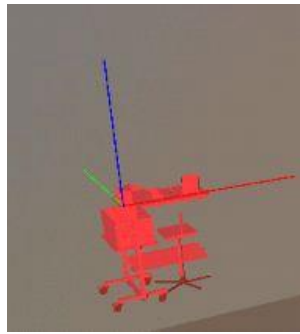
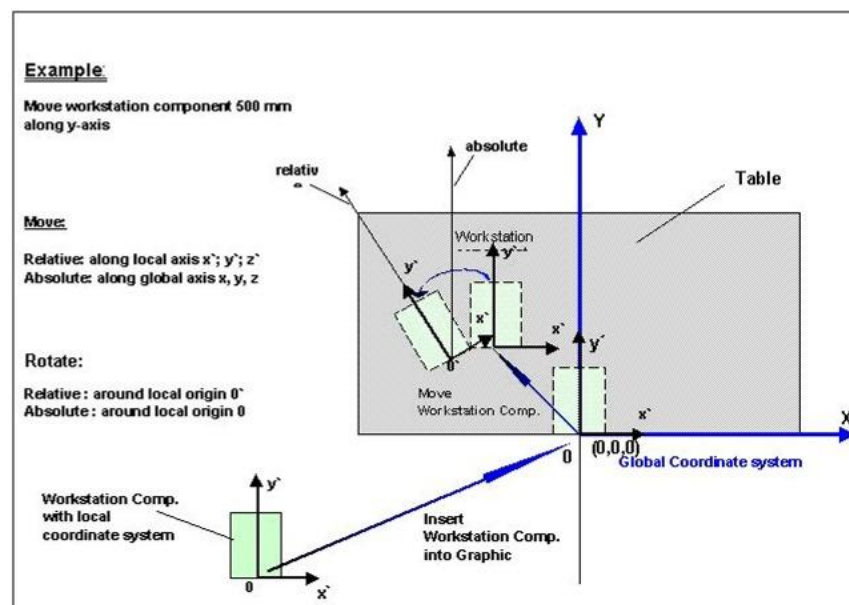

Figure 46: Example for a Coordinate System: Selected Graphic Object
Figure 48: Example for Coordinates: Absolute/Relative
Using the Translate function, objects can be translated into a graphic. Graphic objects can be moved in the **absolute** as well as in the **relative** mode. In the absolute mode, objects are moved in the so called global coordinate system (coordinate system of the open graphic) and in relative mode in the local coordinate system of a selected graphic object. Please refer to the Figure 48.
- 7) If you select the relative coordinate system, the graphic object is translated along its own coordinates. Please refer to the Figure 46, Figure 47, and Figure 48.